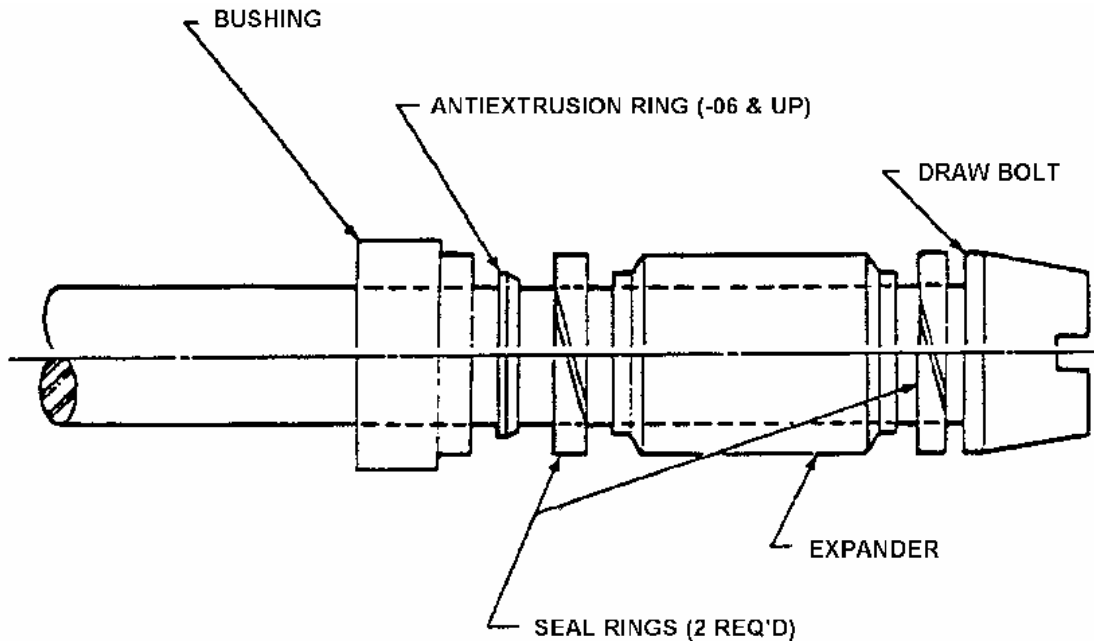

Figure 2. Drawbolt Assembly
6. **Internal Tools.** A drawbolt assembly which has all the basic internal tools is shown in Figure 2. The drawbolt assembly consists of a drawbolt, a urethane expander, a pair of seal rings, a bushing, and an anti-extrusion ring. The drawbolt assembly is inserted into tubing for swaging.
10. **Description.** Hand swager tool kits, models 5175 and 5720, consist of tools classified as internal and external tools (Figures 2 and 3). Internal tools are used inside of tubing and external tools are used outside of tubing to be swaged. Internal and external tools are listed on Tables 2 (model 5175) and 3 (model 5720).